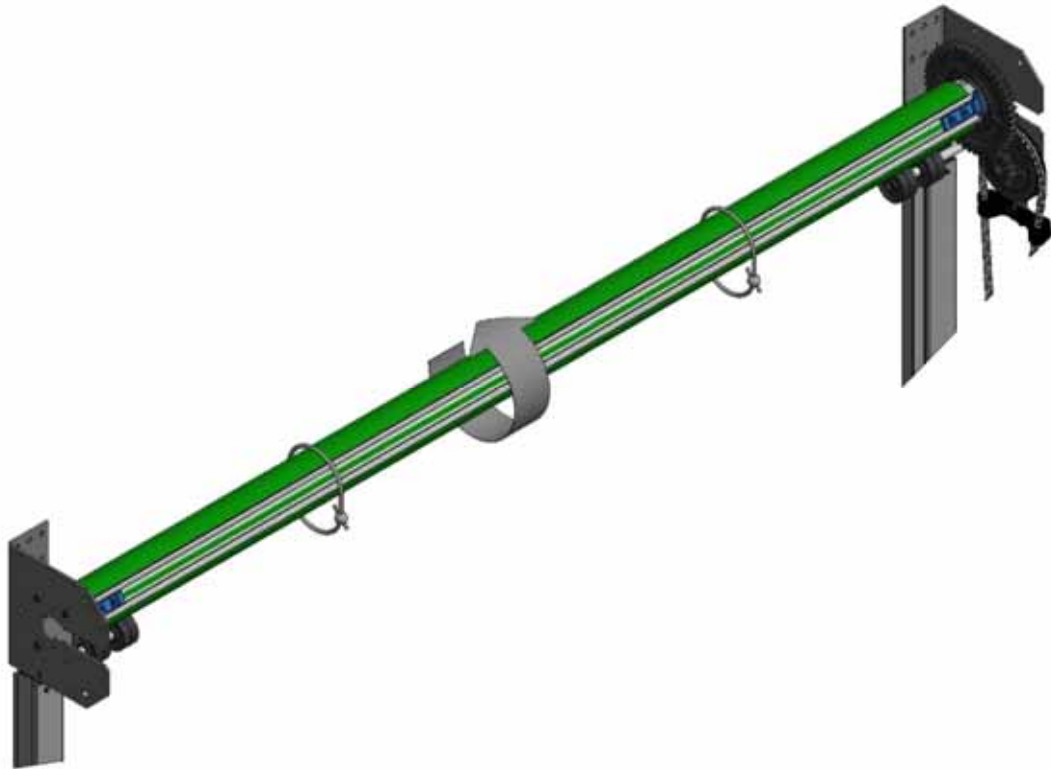

Figure 19, Tensioning of Spring
- 13 Pre-tension the spring mechanism by rotating the top tube assembly in the direction shown in Figure 19, this is done by pulling down on the outer chain. The number of pre-tension turns is given in the table below. When the required number of turns has been reached, lock the operating chain into the chain keep (O1).